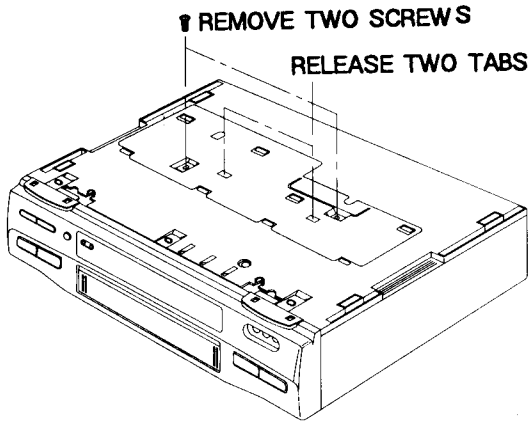
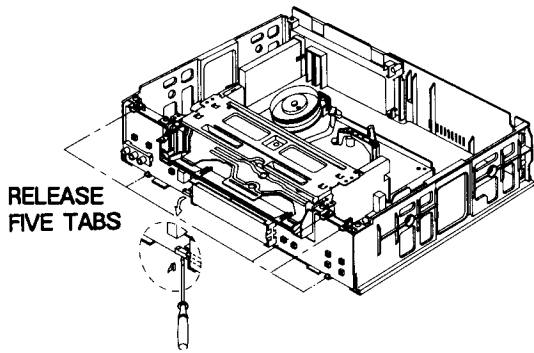

Fig. 1 Bottom Cover Removal
Fig. 4 Function PCB Removal
1. Remove bottom cover and top cabinet (See Fig. 1 to 2).
2. Release three (3) tabs from the bottom of the front panel.
3. Release four (4) tabs from the top of the front panel.
1. Follow the procedures for removing the bottom cover, the top cabinet and the panel front. (See Fig.1 to 3)
2. Release five (5) tabs on the function board.
3. Release connector(CN701) gently with using the Driver as shown Fig. 4
1. Follow the procedures for removing the bottom cover, top cabinet and the front panel ass'y. (See Fig.1 to 3)
2. Remove four (4) screws from the bottom and top of the deck ass'y.
3. Remove two (2) screws from the bottom of the frame.
1. Follow the procedures for removing Fig. 1 to 6
2. Release three (3) tabs from the frame.
4. Release connector (CN701) gently with using the Driver as shown Fig. 4
5. Remove screws (④, ⑤, ⑥, ⑦, ⑧) holding the deck and follow the procedures on next page.